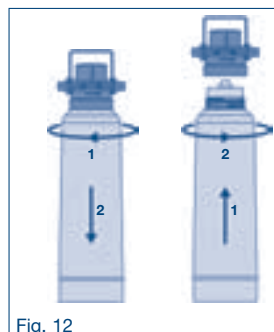

Fig. 12
2. Unscrew the filter cartridge out of the filter head in a clockwise motion (see Fig. 12). Dismantling can be simplified by turning the filter head in the filter bracket by 90°.
4. Install new filter cartridge as described in Section 6.8 (see Fig. 12).